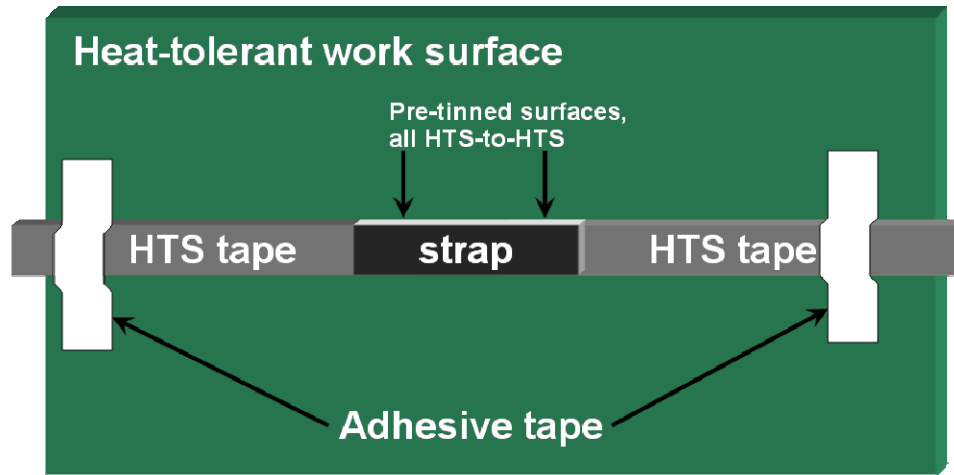

Figure 10. Method of Positioning and Securing HTS Wires for Soldering of Strap Splice Overlap Joints
- d) Roughly align the wires along their lengths and secure them in position. An example of how to do this is shown in Figure 10. Here, the HTS wires are taped to a G-10 phenolic plate which provides a good heat-tolerant work surface. Note that the adhesive tape must be far enough away from the solder joint to avoid exposing it to excessive heat.